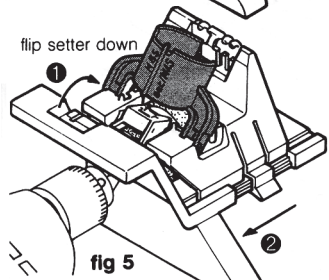

fig 5
- Flip the drill setter down to touch the grinding wheel. Hold it lightly in position against the wheel and slide the carriage to the left until it clicks into position (fig. 5).